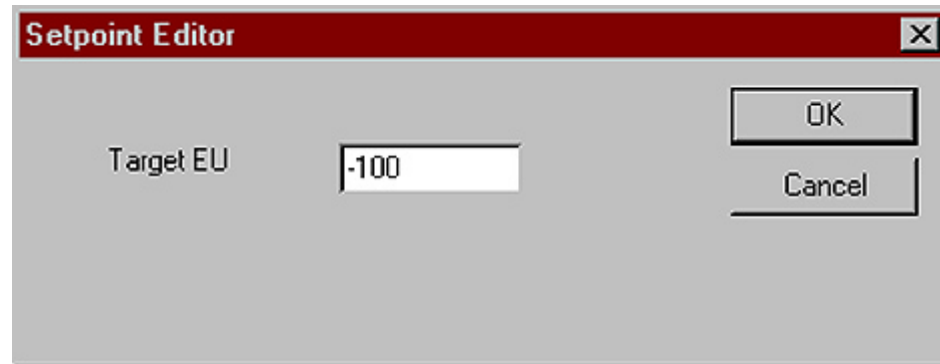

Figure 7
| Figure 7 Setpoint Editor | 7 |
- 114 If the Target EU 0.000000 is not listed on the Signal Display screen, click on “New Point” button. The “Setpoint Editor” window for Target EU will appear. See Figure 7.